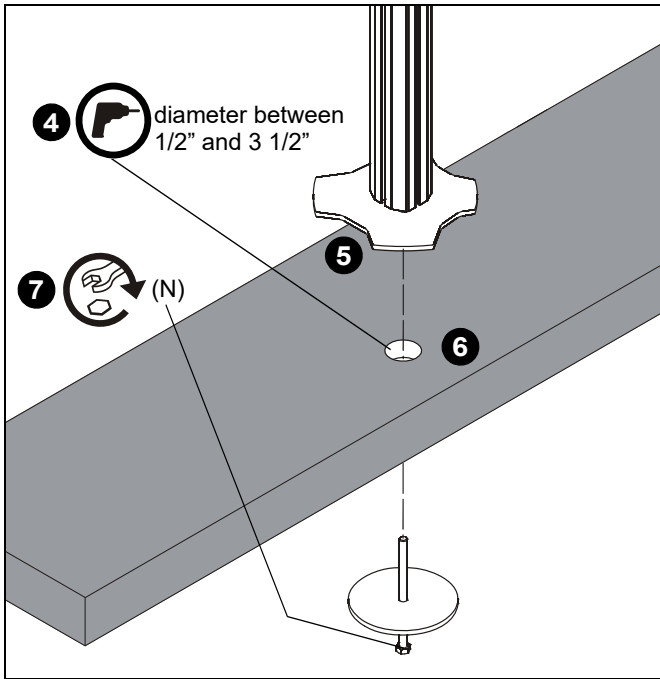

Figure 9
4. If a hole doesn't already exist, drill a hole in desk with a diameter between 1/2" and 3 1/2" at desired mounting location. (See Figure 9)
5. Position mount on desk so that center hole of grommet plate (P) is centered over grommet hole. (See Figure 9)
6. Insert grommet screw (N) through grommet hole and thread into center hole of grommet plate (P). (See Figure 9)
7. Tighten grommet screw (N) until grommet base is tightened against underside of desk and mount is securely mounted to desk. (See Figure 9)